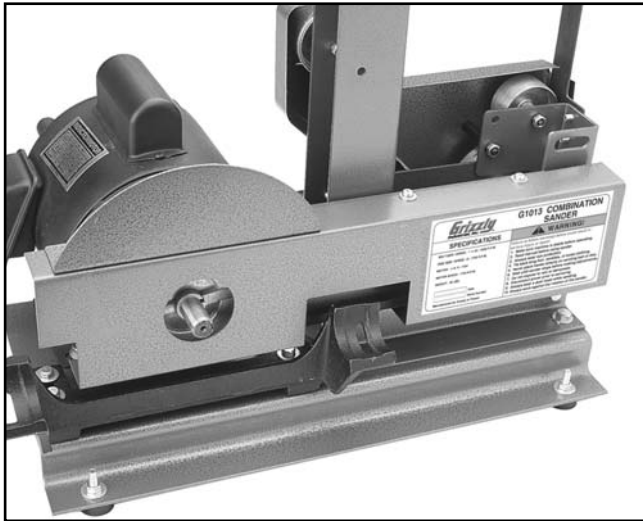

Figure 9. Belt guard attached to sander.
9. Attach the belt guards as shown in **Figure 9**. Secure with four (4) M5-0.8 x 6mm Phillips® head screws and 5mm washers.